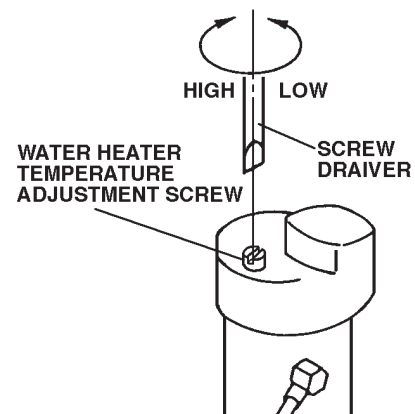

Fig.3-4 Cupfiller Water Heater Temperature Adjustment
(5) Cupfiller Water Temperature Adjustment (**Fig.3-4**)